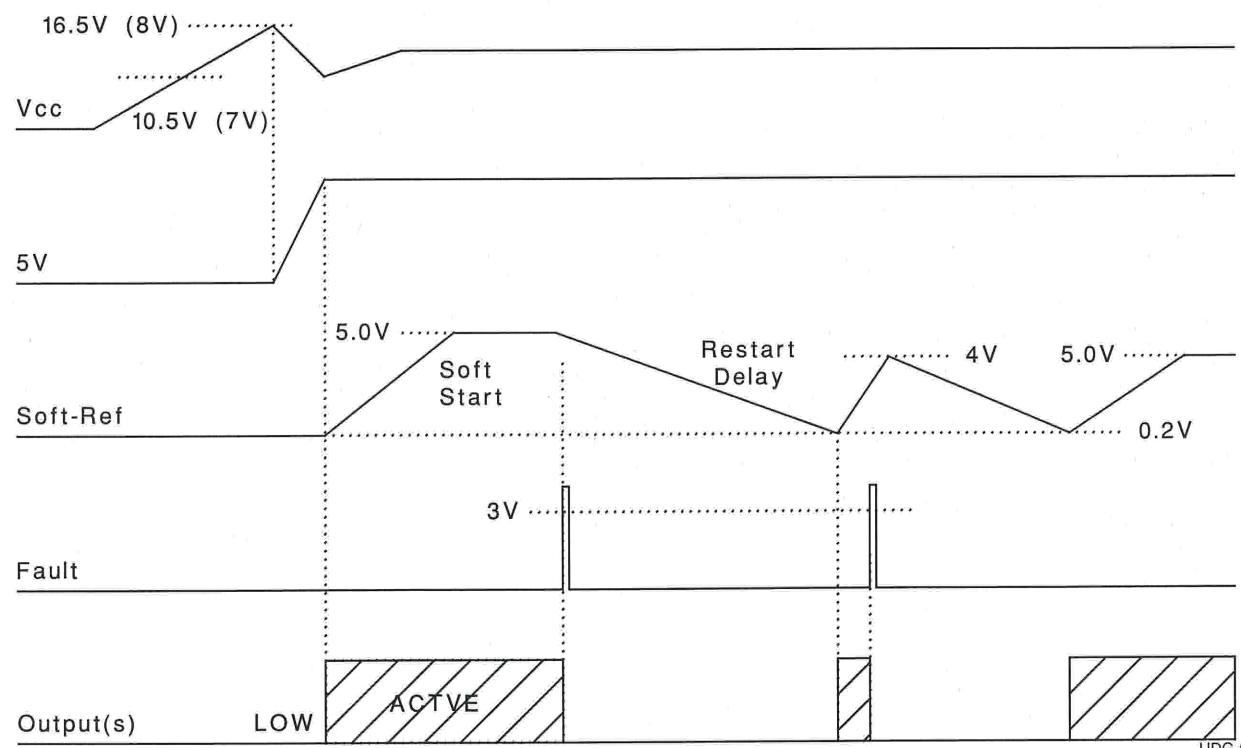

Figure 1. UVLO, 5V, fault and soft-ref.
**UVLO & 5V GENERATOR (See Figure 1):** When power is applied to the chip and  $\text{Vcc}$  is less than the upper UVLO threshold,  $\text{Icc}$  will be less than  $300\mu\text{A}$ , the 5V generator will be off, and the outputs will be actively held low.
**FAULT AND SOFT-REFERENCE (See Figure 1):** The Soft-Ref pin serves three functions: system reference, restart delay, and soft-start. Designed to source or sink  $200\mu\text{A}$ , this pin should be used as the input reference for the error amplifier circuit. This pin requires a bypass capacitor of at least  $0.1\mu\text{F}$ . This yields a minimum soft-start time of 1ms.